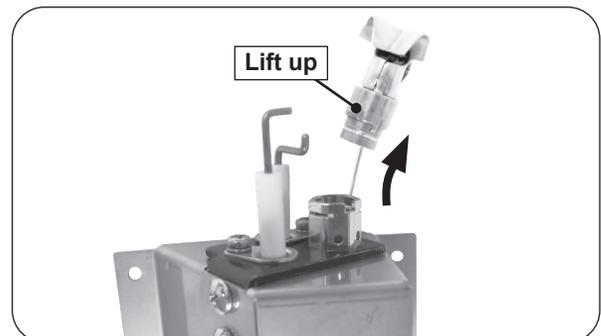

Fig. 2-5 Remove pilot head
2. Detach the pilot head and let rest via the attached ground wire (see Fig. 2-5).